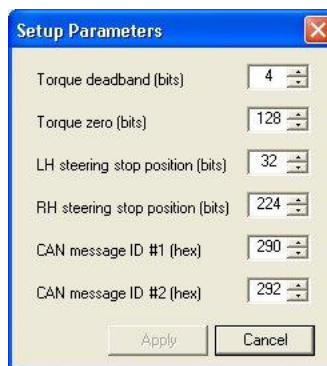

Figure 7 - Setup Parameters Dialog
1. Select the **Setup** ➔ **Parameters** option from the main menu. The Setup Parameters dialog (Figure 7) is displayed.